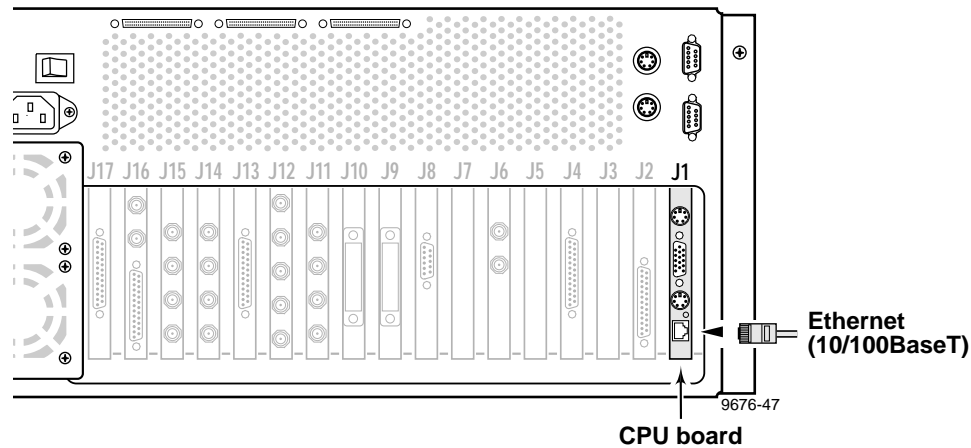

Figure 4-4. System Ethernet Connector
The Profile system supports a 10/100BASE-T Ethernet interface. Figure 4-4 shows the location of the 10/100BASE-T Ethernet interface connector on the System CPU board in slot J1. See Appendix B for connector pin-out information.
2. Connect the Ethernet cable to the Profile system Ethernet connector as shown in Figure 4-4.